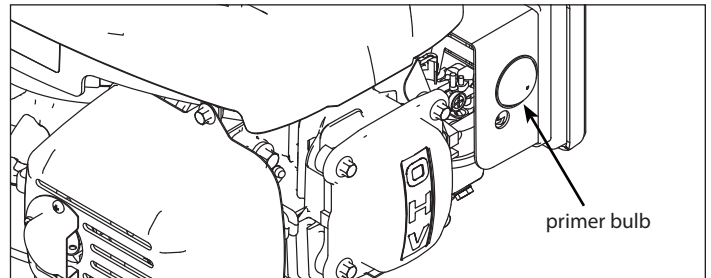

FIGURE 3: Primer Bulb
4. Press primer bulb three times. Let bulb fully recover between each depression. **SEE FIGURE 3**